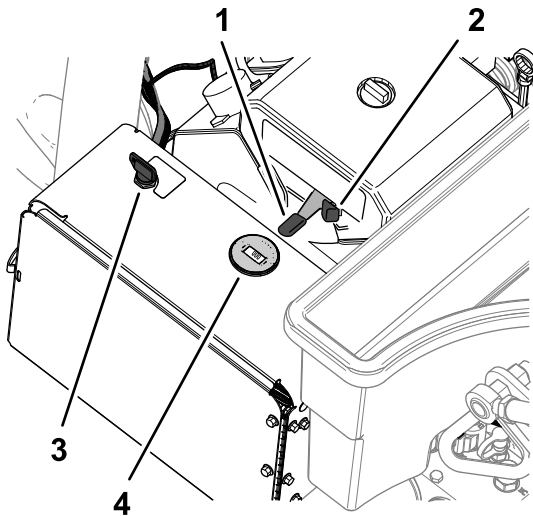

Figure 77
2. Use the choke (Figure 77) as follows: